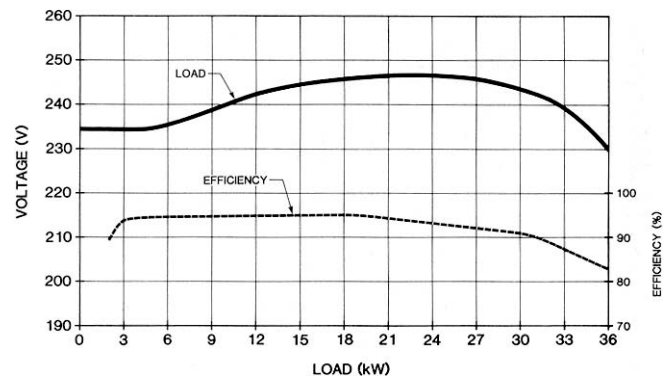

FIGURE 2. Performance characteristics.
**Performance characteristics:** Alternator performance characteristics for various resistive loads are shown in FIGURE 2. Maximum continuous output of the alternator was 36 kW. At this output, voltage was 230 volts. Further loading usually resulted in tripping the 125 AMP main breaker.
Efficiency of the alternator, as shown in FIGURE 2, varied from 83 to 96%. Peak efficiency of 96% occurred at a load of 11.6 kW.